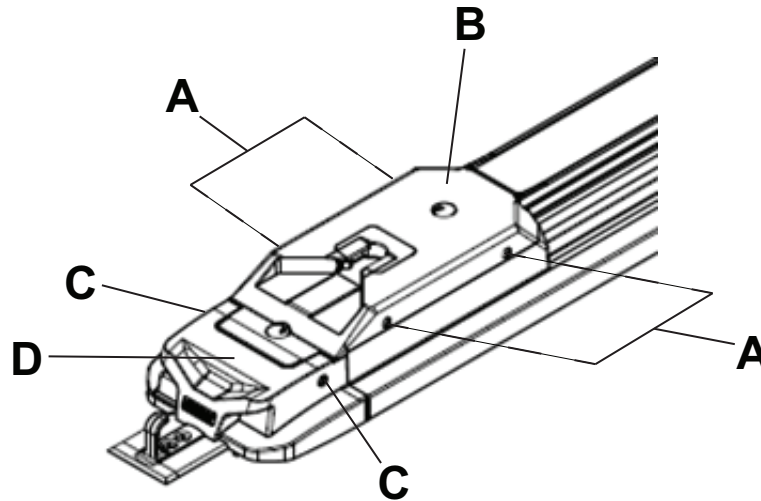

Figure 7 – Foot end cover assembly
9. Using a T27 Torx driver, remove the four socket head cap screws (A) that secure the foot end cover assembly (B) to the transfer (Figure 7). Save the screws.
10. Using a T27 Torx driver, remove the two button head cap screws (C) that secure the foot end cover assembly to the foot end nose assembly (D) (Figure 7). Save the screws.